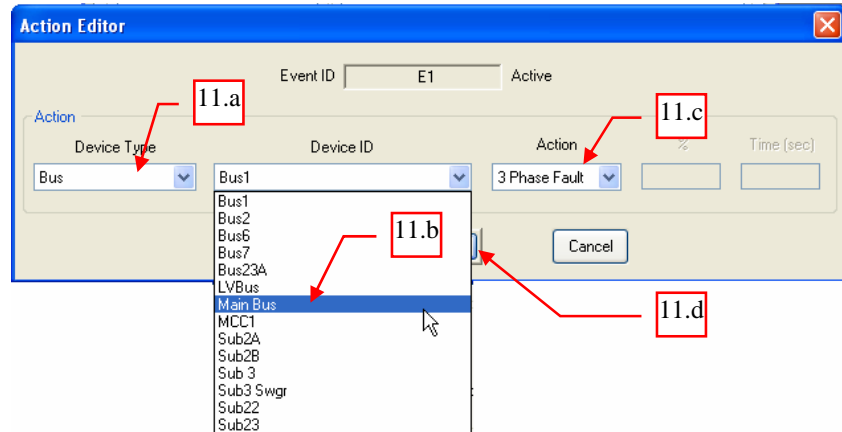

Fig. 7
11. As per the Illustration on page 2, do the following on the “Action Editor” dialog box shown in Fig. 7: